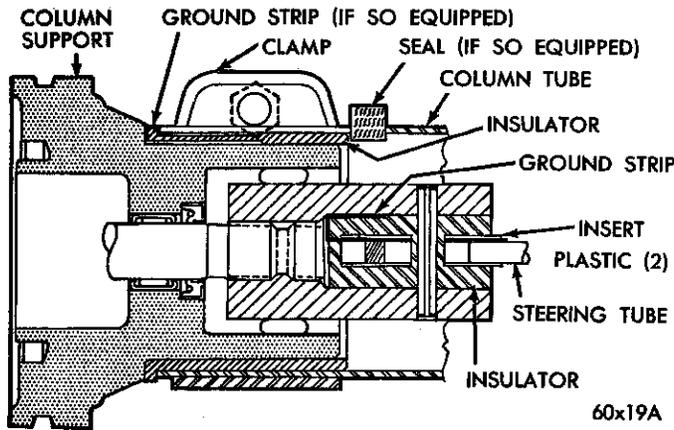

Fig. 9—Jacket Tube Installed on Jacket Support—Cross Section
(28) On Chrysler Models, pry between the jacket tube clamp (Fig. 9) and the steering gear housing to loosen the jacket tube from the column jacket support insulator boot.
(29) Slide the jacket tube up and off the steering gear through the driver's compartment.
(30) Remove the rubber insulator boot horn ground strap, the steering tube coupling pin, two plastic inserts, horn ground strap, rubber insulator and the upper steering tube.
(31) On Chrysler and Imperial Models, remove the gear housing to frame bolts, washers and alignment wedge.
(32) Slide the steering gear towards the rear of the